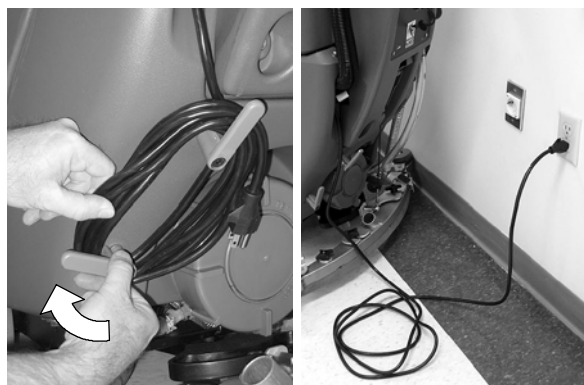

FIG. 38
- Connect the charger's AC power supply cord into a properly grounded receptacle (Figure 38).